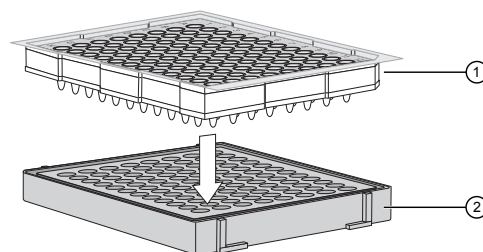

Figure 2 96-well plate/rack assembly
2. (Optional) If you are using a 96-well plate, place the sealed plate on a 96-well PCR tube rack (see Figure 2).